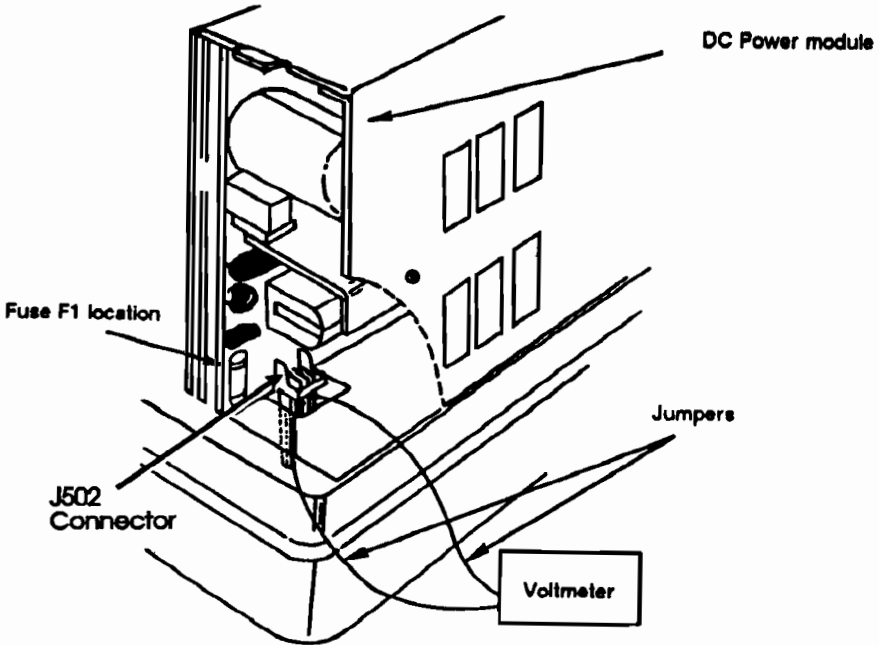

Figure 7-4. Fuse F1 Location
1. Check Fuse F1 on the DC Power Supply Assembly. (See Figure 7-4.)
2. Remove the printer's Front Support Plate. Connect a voltmeter to J502-1 and to J502-3 of the DC Power Supply Assembly (see Figure 7-4).